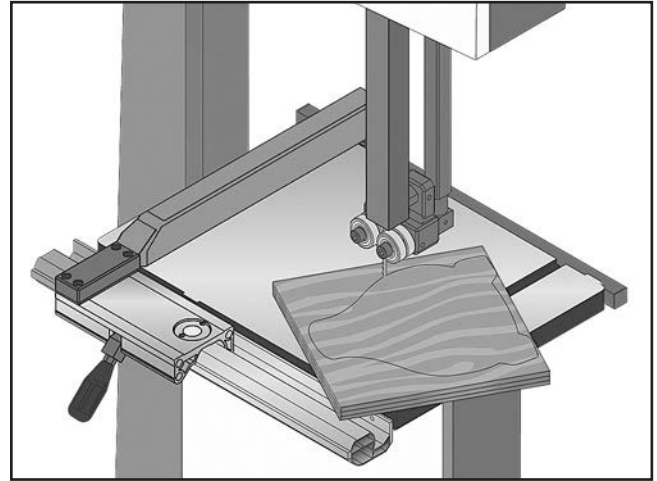

Figure 81. Example of stack cutting.
5. Cut the stack of pieces as though you were cutting a single piece. Follow your layout line with the blade kerf on the waste side of your line, as shown in **Figure 81**.